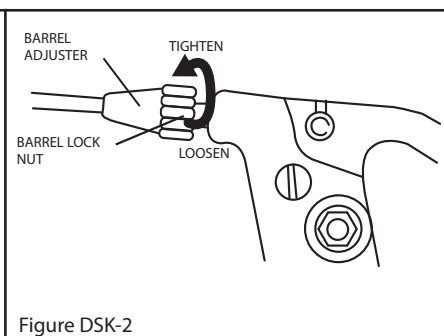

Figure DSK-2
Adjusting Caliper or Side Pull Brakes: For minor cable adjustments, you can rotate the cable barrel adjuster located on the caliper (figure BRK-1) or on the lever (figure DSK-2) counter clockwise or clockwise.
- b. For minor cable adjustments, rotate the barrel adjuster located at the brake lever (figure DSK-2) counter clockwise or clockwise.